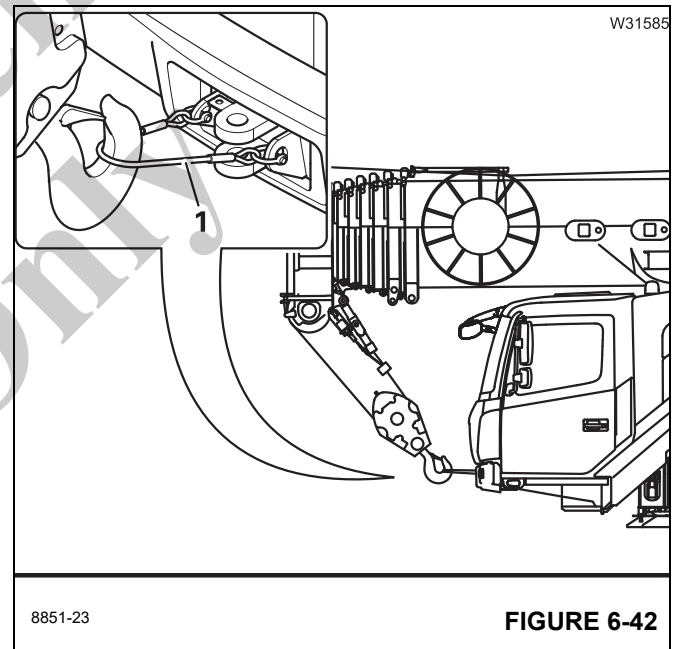

FIGURE 6-42
- Detach the hook block from the retaining rope (1), (Figure 6-42).
- Raise the hook block vertically above the retaining rope (1), (Figure 6-42).
- Lower the hook block and attach the hook block to the retaining rope (1), (Figure 6-42).